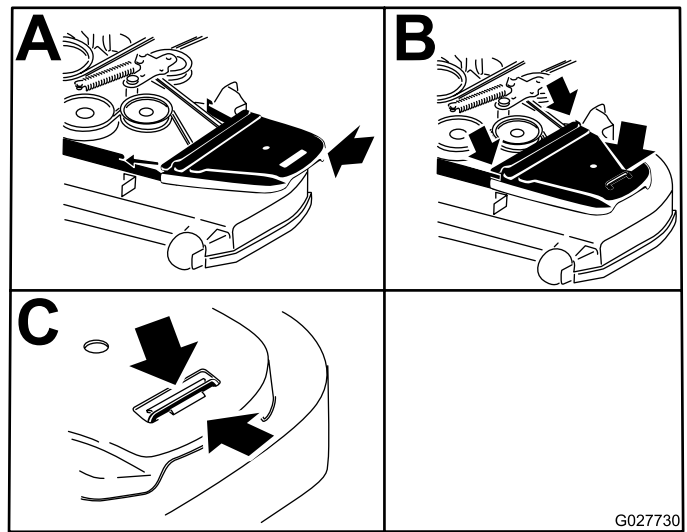

Figure 94
12. Install the belt covers (Figure 94).